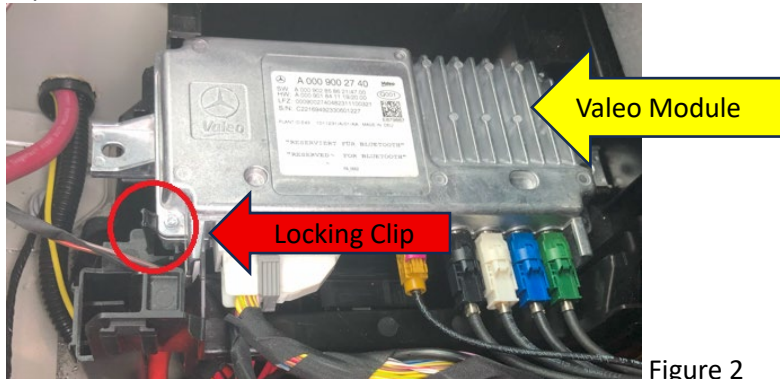

Figure 2
- Remove Mercedes Valeo Module shown in Figure 2 by pulling up on the front edge while pressing the locking clip forward. Set the module aside to access the PSM below it.